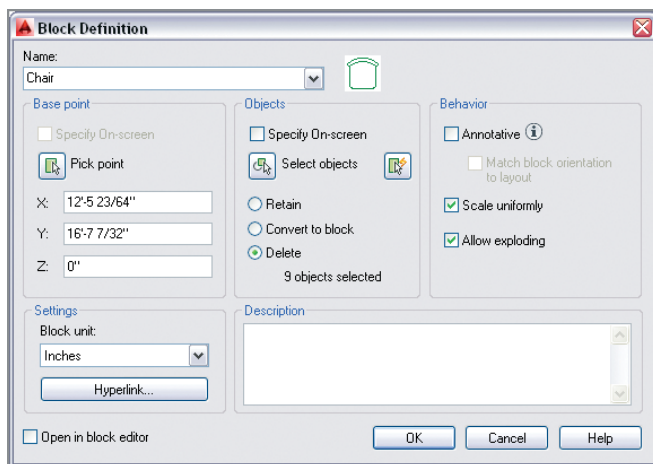

FIGURE 7.5 Defining a chair block
17. Every block has a *base point*, which should be related to its geometry. Click the Pick Point button in the Base Point section; the Block Definition dialog box disappears. Hold Shift, and right-click to open the context menu; select Midpoint. Click the midpoint of the chair's front edge. The Block Definition dialog box reappears, showing the coordinates of the point to which you snapped (see Figure 7.5).